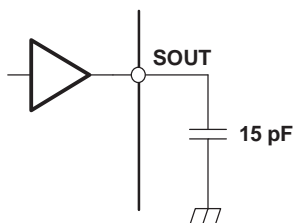
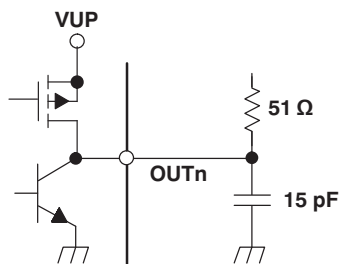
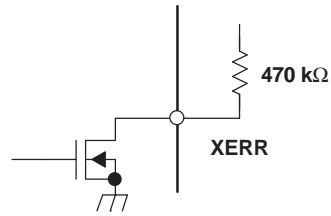

Figure 4. Test Circuit for  $t_{r0}$ ,  $t_{f0}$ ,  $t_{pd0}$ ,  $t_{pd1}$
Figure 5. Test Circuit for  $t_{r1}$ ,  $t_{f1}$ ,  $t_{pd2}$ ,  $t_{pd3}$ ,  $t_{pd5}$ ,  $t_{td}$
Figure 6. Test Circuit for  $t_{pd4}$
- (1) See Figure 4. Defined as from 10% to 90%
- (2) See Figure 5. Defined as from 10% to 90%
- (3) See Figure 4, Figure 16
- (4) "↑" and "↓" indicates a rising edge, and a falling edge respectively.
- (5) See Figure 5 and Figure 16
- (6) See Figure 5, Figure 6, and Figure 16
- (7) See Figure 5